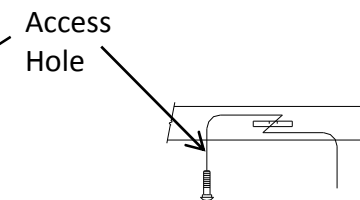

**Figure 2**
- Pull the pull wire with fasteners into location through the hole. Leave pull wires attached. Repeat the same process on both frame rails. Push the fasteners back into the frame rails with the pull wire attached, to allow the hitch to go into position. See figure 2